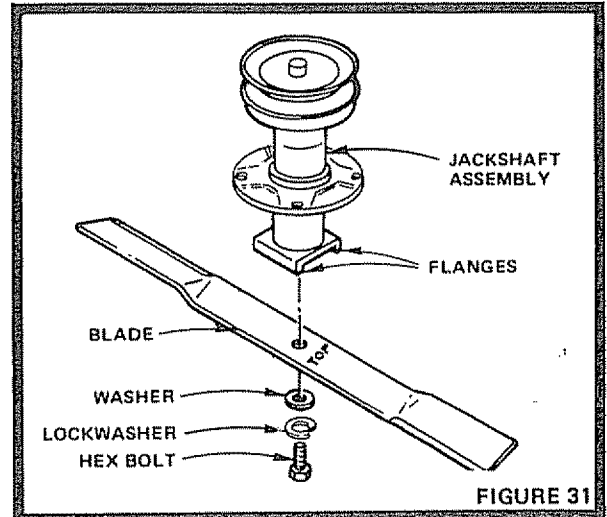

FIGURE 31
1. Remove Bolt, Lockwasher and Washer (Fig. 31) (turn counterclockwise).